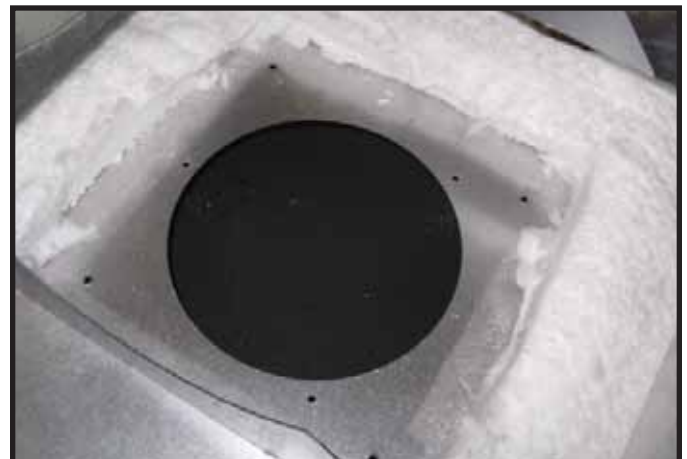

Figure 7.4.
4. Remove the four screws securing the cover plate to the inside of the appliance and discard them along with the cover plate. See Figure 7.4.